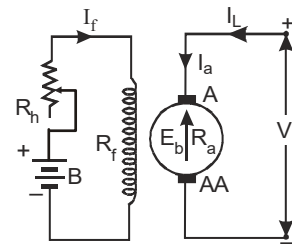

Fig. 6.1: Separately Excited DCMotor
1. **Separately excited dc motors:** The conventional diagram of a separately excited d.c. motor is shown in fig 6.1. Its voltage equation will be; $E_b = V - I_a R_a - 2v_b$